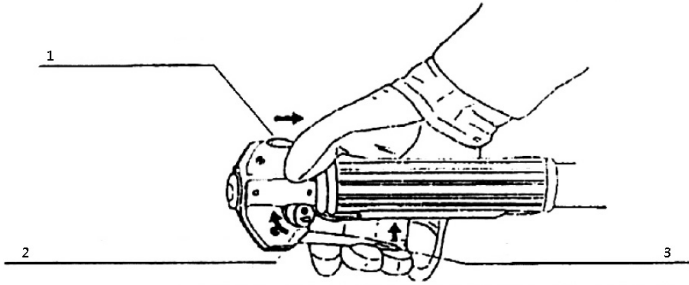

Fig. 7
• Move the ON/OFF switch away from the STOP position. The motor will not start if the ON/OFF switch is in the STOP position (Fig. 7)
• Press the Trigger Lever and move the lever of medium acceleration in the direction of the arrow (Fig.7)
• Loosen the Trigger Lever; this will lock the lever of medium acceleration in position. Now you can start the motor (Fig.7)